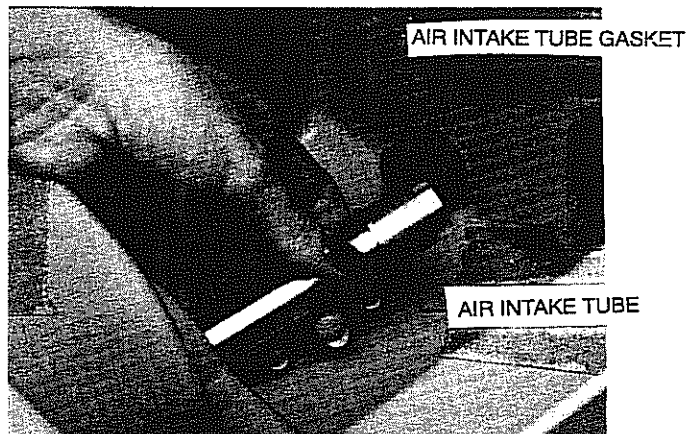

FIGURE 4.8 REMOVAL OF AIR INTAKE TUBE
- J. **REMOVE AIR INTAKE TUBE.** Grasp the Air Intake Tube (Figure 4.8), twist and pull it toward the front of the Incubator until the end of the tube clears the gasket. Remove the tube from the base assembly.